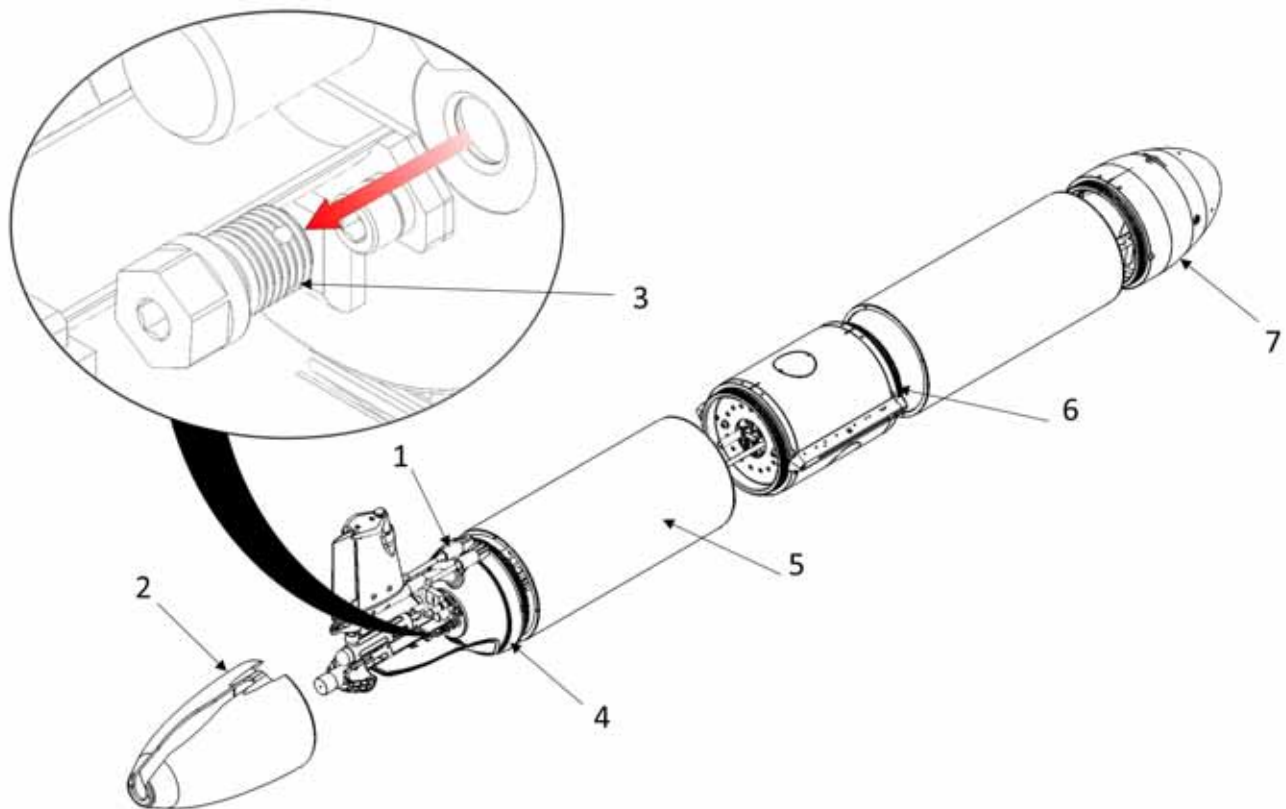

Figure 2-1 G3 Glider.
1. When properly shut down, ensure that the power to the glider is off by removing the Go plug (green) (Figure 2-1, Item 1) and replacing it with the Stop plug (red).
2. Remove the aft cowling (Figure 2-1, Item 2) by removing the two 10-32 socket head cap screws and washers using the 5/32" x 12" red T-handle hex wrench. Remove the two shells from the power and comms connectors at the top of the aft cap. Grasp the cowling and pull
3. Using the 15 inch-pound torque T-handle, 24" extension and 3/16" hex bit, remove the 7/16 x 20 PolyEtherEther-Ketone (PEEK) military standard (MS) vacuum seal plug (Figure 2-1, Item 3).
4. Using the same tool assembly, insert the 3/16" hex bit into the vacuum seal port and engage the tie rod end. Unscrew the tie rod until tension is felt, then separate the aft endcap/aft tray assembly (Figure 2-1, Item 4) from the aft hull using the hull separator tool.
6. Using the hull separator tool, separate the aft hull (Figure 2-1, Item 5) from the payload bay aft stiffener ring.
25. Using the hull separator tool, separate the forward hull from the forward section (Figure 2-1, Item 7). Slide the hull aft and carefully remove it and set it aside.
1. Ensure that power is not applied to the vehicle and that the Stop plug (red) (Figure 2-1, Item 1) is installed.
21. Place the aft hull (Figure 2-1, Item 5) on the glider cart making sure the orientation is correct. The Teledyne Webb Research label should be aft and on top.
34. Use a vacuum pump with the evacuation tool and the 3/16" torque handle assembly to evacuate the glider, sealing with the 7/16 x 20 PEEK MS plug (Figure 2-1, Item 3). The glider should be evacuated to at least 6 inches Hg for a shallow glider and 7 inches Hg for a deep glider. However, it is best to pull a higher vacuum, as you can bleed some air in the when the glider is powered on. Tighten the plug to 15 inch-pounds of torque.